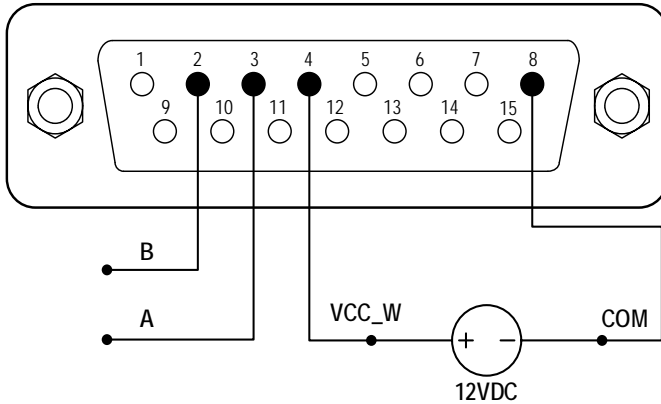

Figure 26. RS485 MODBUS Wiring
- 1) When the power is off, wire the DB15 connector as shown in Figure 26, and connect it to the DB15 port on the rear of the pump. It is recommended to use an external DC power source to avoid electrical interference.